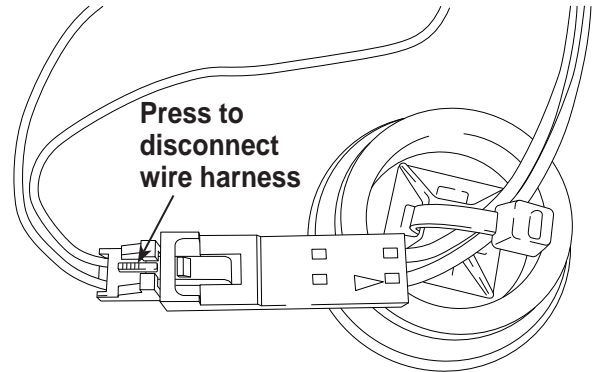

Figure 18
6. Disconnect the wire harness at the connector by pressing on the center tab. Pull the connectors apart. See Figure 18.